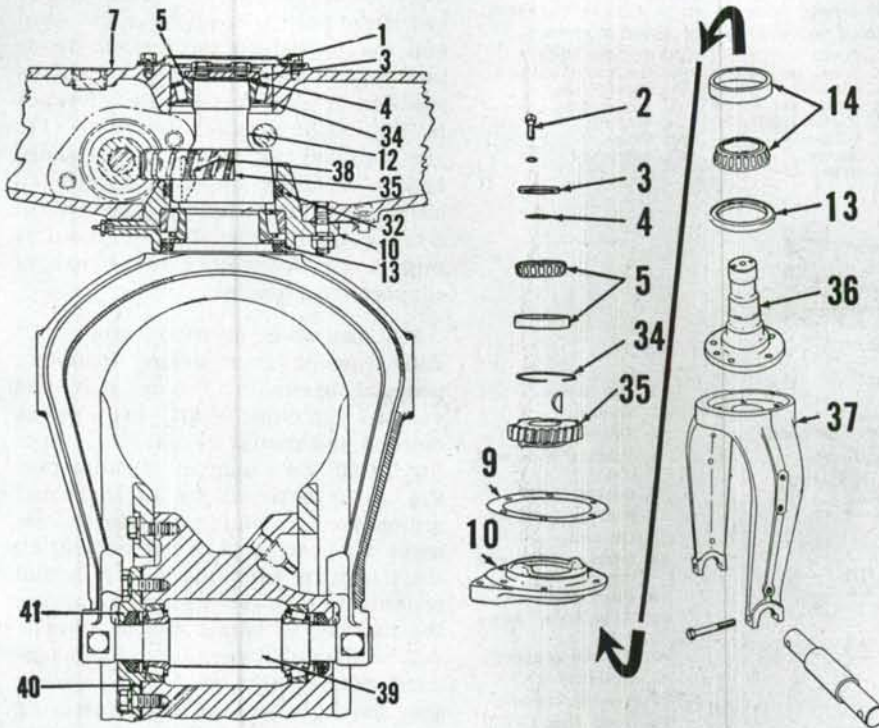

Fig. AC4—Models RC and WC single wheel tricycle version front support and main steering gear assembly. WD models prior to serial WD 25129 are similar.
2. RC-WC-WD-WD45 SINGLE FRONT WHEEL. On RC-WC, and WD models prior serial WD25129, the wheel fork and vertical spindle are integral as shown in Fig. AC4. On later WD, after serial WD25128, and WD45, the wheel fork is flange bolted to the vertical spindle as shown in Fig. AC5.
Front wheel bearings are adjusted by varying the number of shims (40—Fig. AC4) located between the bearing retainer and wheel hub.